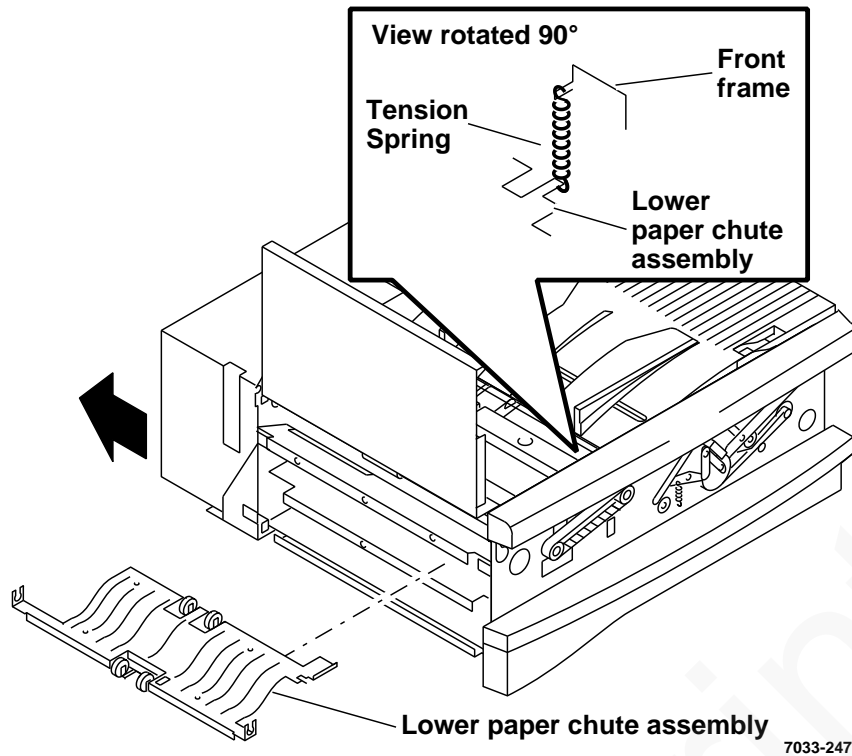

Figure 20. Lower paper chute assembly removal
- a. Remove paper guide spring from inside front of terminal (Figure 20).